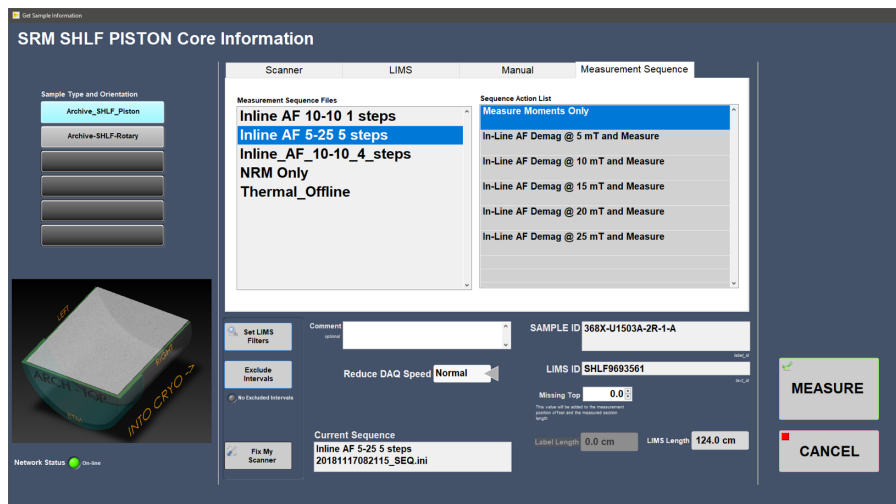
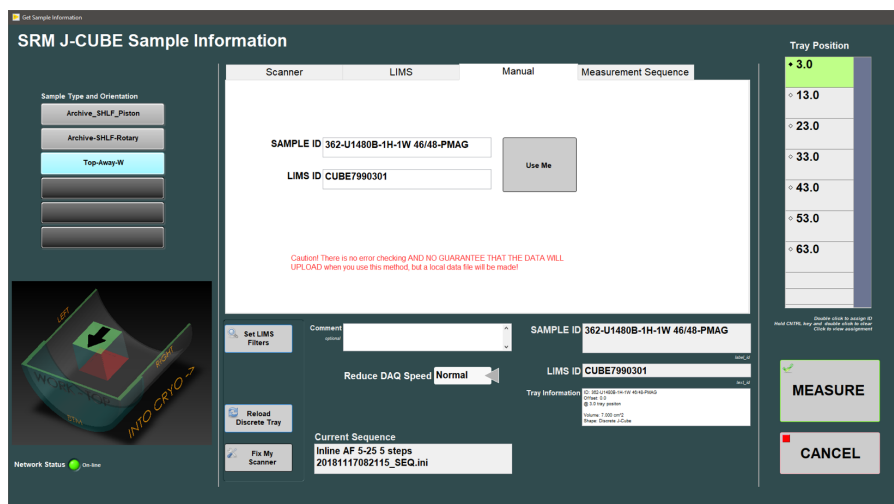

Figure 20- Sample Information Window: Measurement Sequence Selection
Figure 26- Sample Information Window: Discrete Manual Entry
Click **START** on the IMS panel (**Figure 2**) to open the sample information window (**Figure 20–Figure 26**). This is where the user enters the sample ID for a section or discrete sample and initiates the measurement.
The user can select a premade measurement sequence in the **Measurement Sequence** tab (**Figure 20**). The last used measurement sequence will remain in memory and is displayed at the bottom of the sample information window. If the sequence displayed is correct, the user does not need to utilize the measurement sequence tab.
- 2) Select a measurement sequence in the **Measurement Sequence** tab (Figure 20). The sequence may already be selected and displayed in the lower portion of the window.
- 3) Select a measurement sequence in the **Measurement Sequence** tab (Figure 20).
- **Manual** entry mode: Type in the sample label ID (i.e., 362-U1480B-1H-2-W 117/119-PMAG) and LIMS Text ID (i.e., CUBE7990351) (**Figure 26**). *Anything will be accepted, but that does not guarantee the data will upload. The ID information must match an actual sample in order for the data to upload.*
- The Sample ID and LIMS ID should be displayed below the manual entry tab as seen in **Figure 26**.